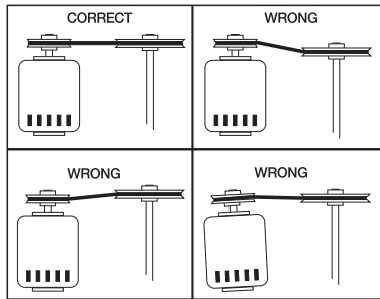

Figure 4
2. If adjustments are made, it is very important to check the pulleys for proper alignment. Misaligned pulleys lead to excessive belt wear vibration, noise and power loss, see Figure 4.